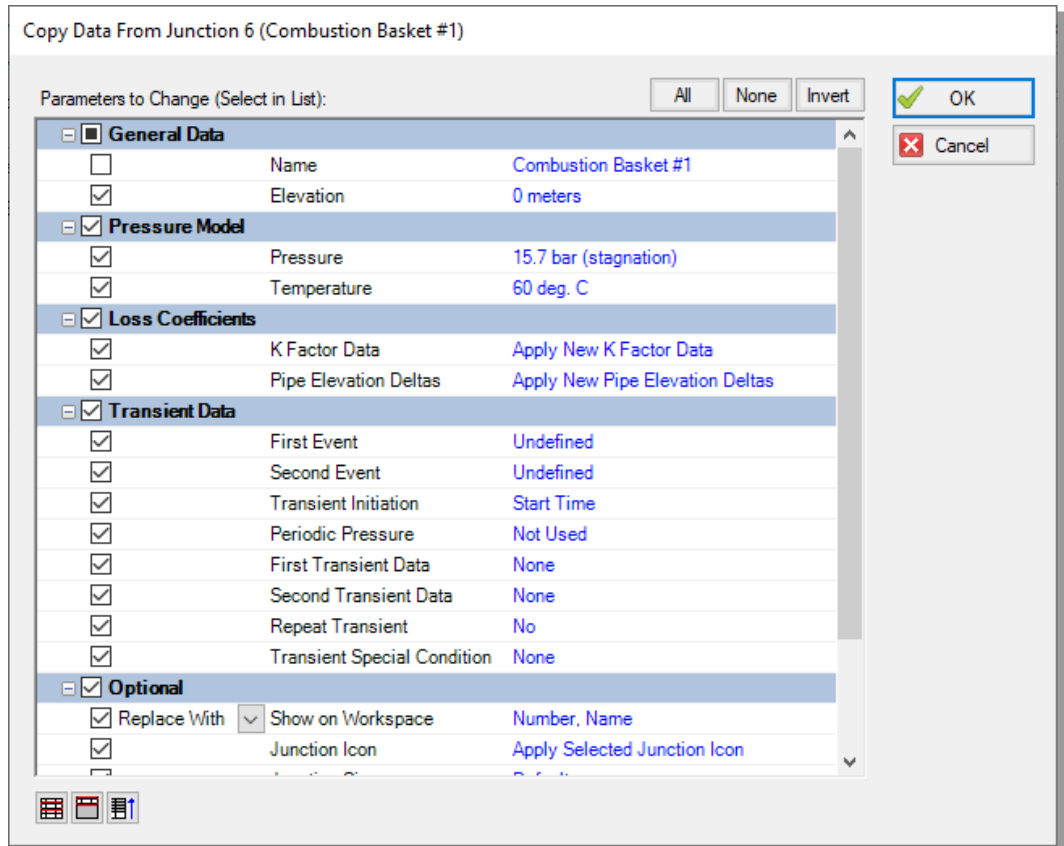

Figure 3.4 The Copy Data From Junction window
- **Un-check the Name parameter, as shown in Figure 3.4.**